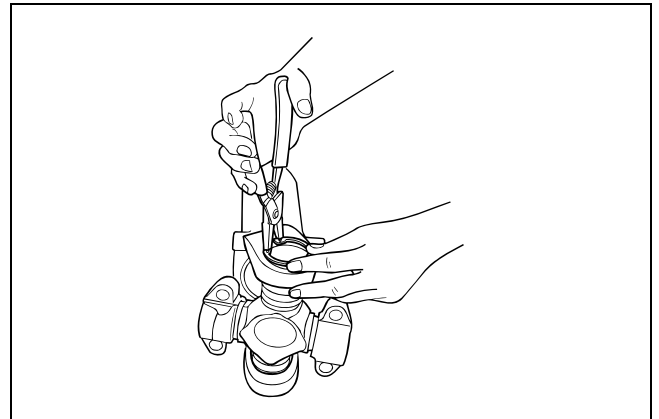

Figure 4.39
9. Use snap ring pliers to install the second snap ring into the snap ring groove. Figure 4.39.